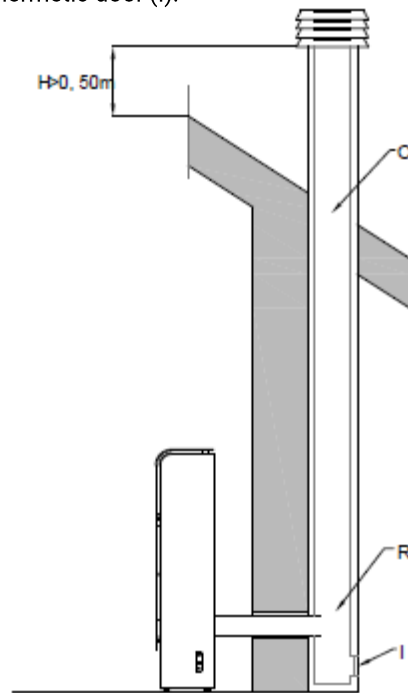

Figure 2.5: smoke discharge with traditional chimney
Combustion smoke can be also discharged by already existing traditional chimney (Figure 2.5), provided it complies with applicable standards. Main characteristics of a good chimney (C) are listed below:
- It is recommended that the base of the chimney is equipped with a collection chamber for solid materials or condensation (R). This chamber must be equipped with the hermetic door (I).